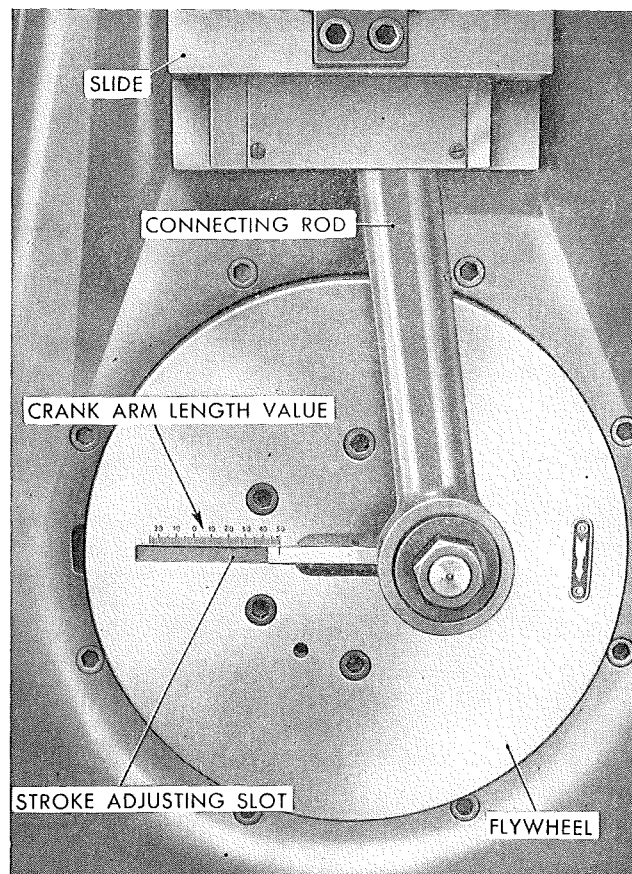

Fig. 267 - Detail of the shock absorber operation tester A. 76003.
- b) Adjust test stroke at 3.937" (100 mm), for front shock absorber, and at 3.150" (80 mm), for rear shock absorber (fig. 267).